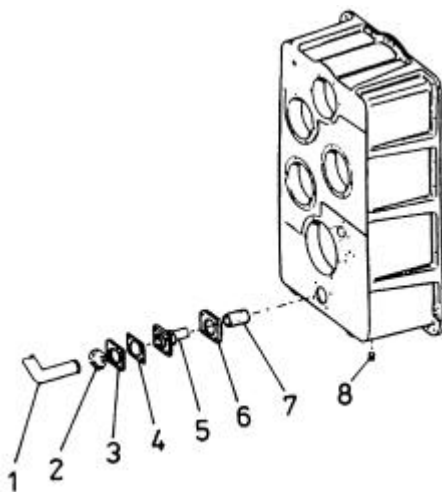

Fig. 5.56. Transmission Oil Strainer
5.18.4. CLEANING THE TRANSMISSION OIL STRAINER (FIG. 5.56)